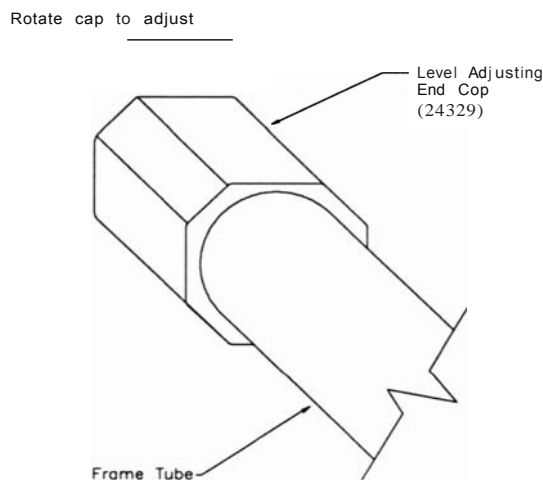

Figure 3: Level Adjusting End Caps
2. Make sure the machine is level before you use it for the first time. The four rubber end caps (see Figure 3) are designed to compensate for uneven floors. Each face of the caps is a different thickness. Twist the caps to stabilize the machine.